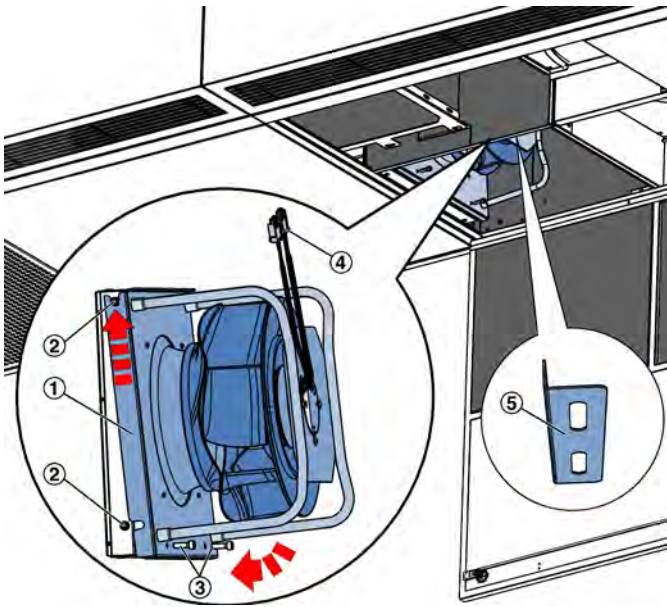

Fig. 21: Assembly of the fan
18. ▶ Put the fan assembly (Fig. 21 /1) on the upper bolts (Fig. 21 /1) first, then swing it onto the lower bolts. Fasten the fan with screws (Fig. 21 /3). Insert the connection plug (Fig. 21 /4) of the fan in the socket, secure the cable to the holder (Fig. 21 /5) with cable ties.